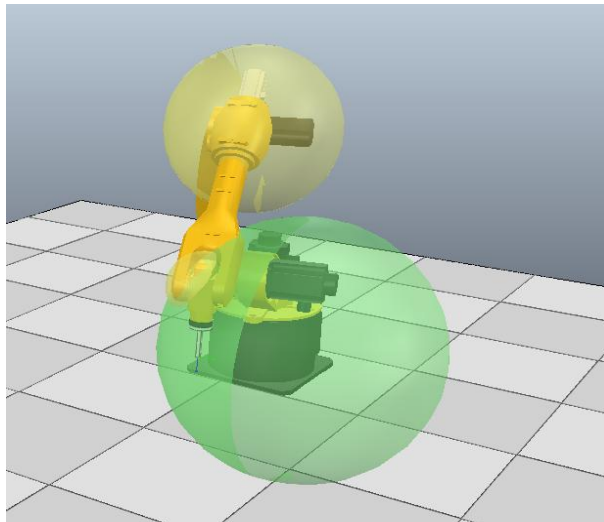

Figure 6-68 Robot's J5 "Axis Envelope" outside working zone
Step4. The robot is controlled to move outside the working zone (see Figure 6-68). When the J5 "Axis Envelope" boundary is detected to be out of the working zone, the warning message shown in Figure 6-70 will appear.